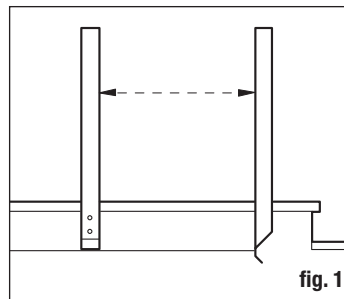

fig. 1
Step 1: Measure railing opening from post to post to determine the length of each baluster rail section (fig. 1).
Step 1: Stair rails and balusters can present an installation challenge. Stair baluster connectors create a snug and accurate baluster fit for stair angles ranging from 30 to 35 degrees (fig.1). Cut top and bottom stair rails at the proper angle. Lay top and bottom 2x4 rails alongside the posts and mark.